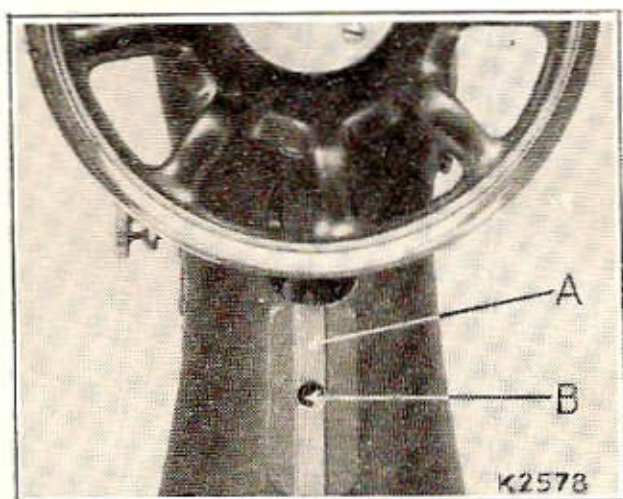
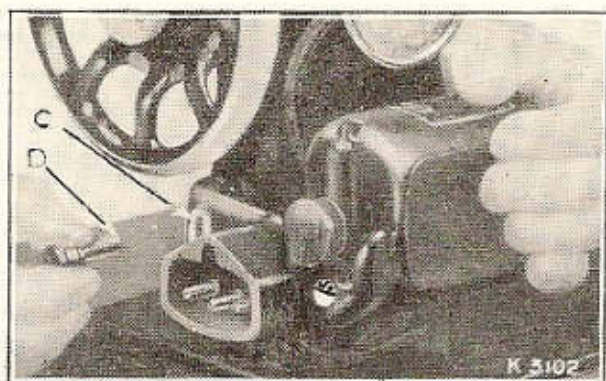
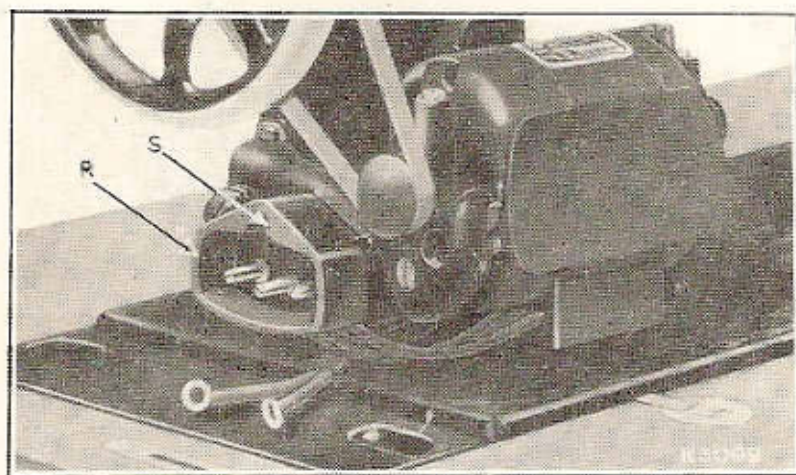
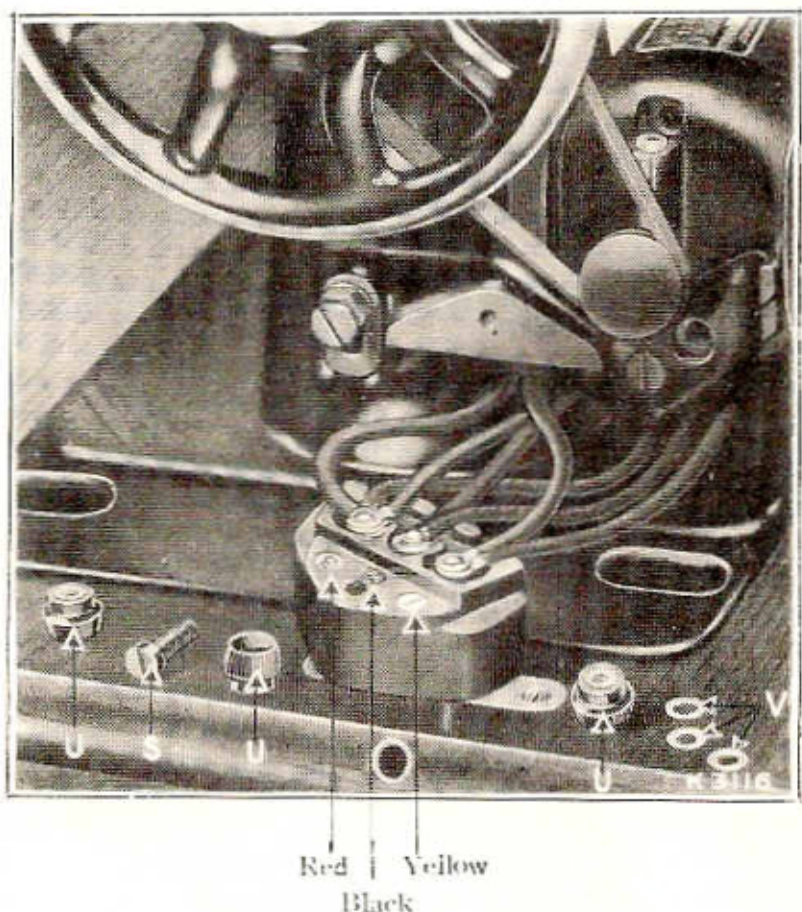

Fig. 1. Removing Japan from Tongue.
Fig. 2. Placing the Motor in Position.
Fig. 6.
Fig. 7. Attaching the Cords.
The motor is attached to the machine arm, as shown in Fig. 2, after first removing the japan from the edges of the tongue (A, Fig. 1) to allow the bracket to slide up and down freely.
Place the motor bracket on the tongue, as shown in Fig. 2, so that the hole (B, Fig. 1) can be seen through the slot (C, Fig. 2). Then insert the screw (D, Fig. 2) and, after moving the motor upwards as far as it will go, tighten the screw.
Remove the terminal block (R, Fig. 6) by taking out the screw (S, Fig. 6). Then remove the three insulated thumb nuts (U, Fig. 7) ; also the three
brass washers (V, Fig. 7). The terminal block has three pins which are distinguished by the figures 1, 2 and 3, in colour, directly above each pin, and the cords for these pins have either tracer threads or ends of corresponding colours.
Replace the three washers (V) and the thumb nuts (U), tightening the latter securely. Then, with the screw (S), fasten the terminal block to the motor bracket, as shown in Fig. 6, and insert the socket plug into the three-pin terminal.